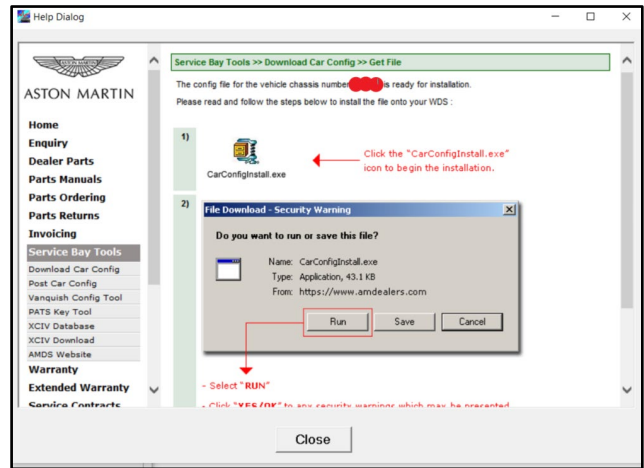

Figure 6
- 11. In the next pop-up window, follow the instructions to install the Car Config file (refer to Figure 6).